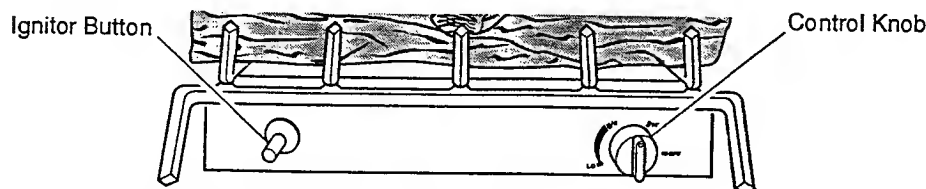

Figure 22 - Control Knob and Ignitor Button Location
4. Wait five (5) minutes to clear out any gas. Then smell for gas, including near the floor. If you smell gas, **STOP!** Follow "B" in the safety information in column 1. If you don't smell gas, go to the next step.
5. Slightly depress and turn control knob counterclockwise to the PILOT position. Keep control knob pressed in for five (5) seconds (see Figure 22).